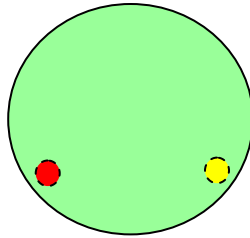

Figure 3
You can use the device with the head gear or without it. When used with the head gear, first adjust all the straps for individual head size. Take off the lens covers (6) from the lens (7). Turn on the device-using switch (1). In case of insufficient lighting when observing an object, which is situated not far from the viewer, turn on the I/R illuminator by turning the I/R switch (1). The red indicator (Fig. 3) will be on.
There are one or two indicators in the visible zone (see Fig. 3).